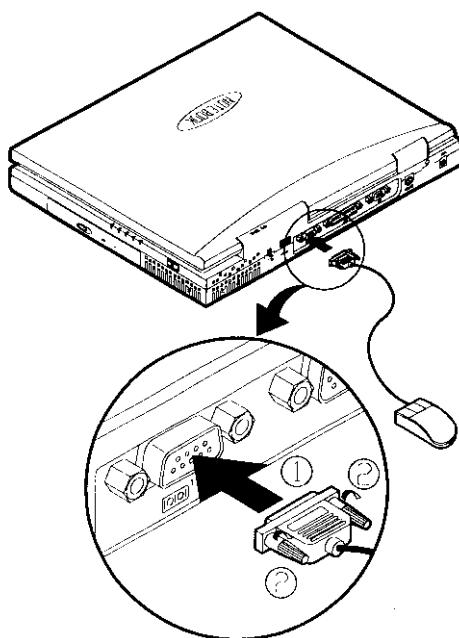

Figure 2-26
3. Tighten the screws that fasten the cable to the serial port (Figure 2-26).